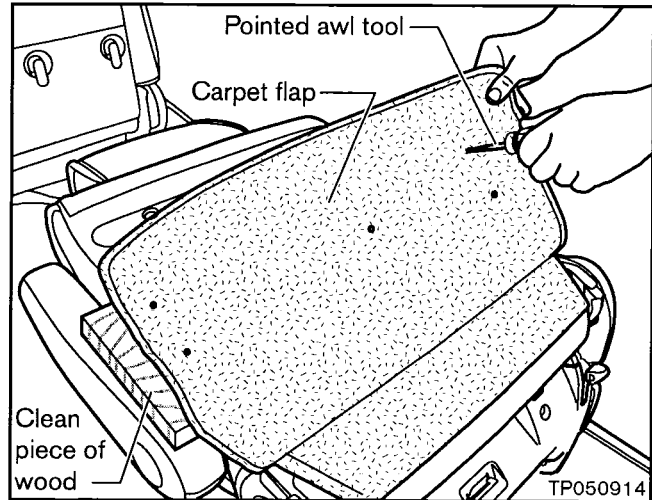

Figure 12
- b. Place a clean piece of wood under the carpet flap. Then use a pointed awl tool to carefully push holes through the marked locations (see Figure 12).